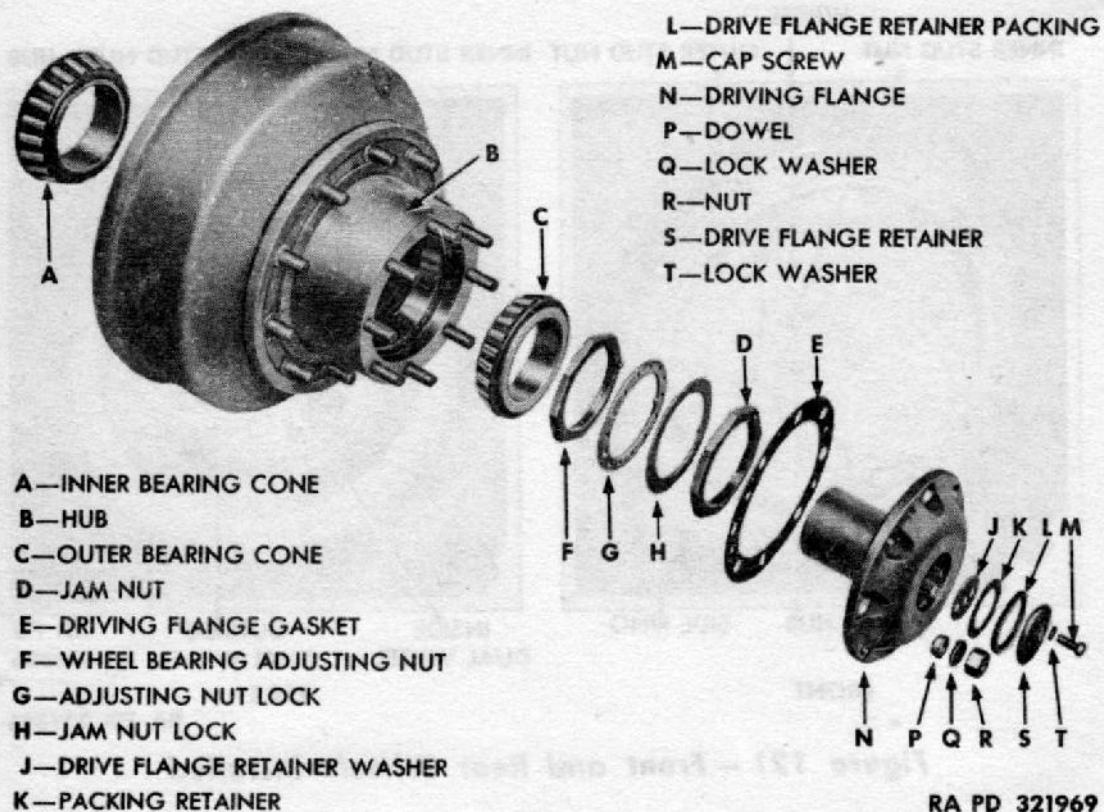

Figure 122 — Front Hub and Bearings Disassembled
(1) DESCRIPTION (figs. 122 and 123). The hubs and wheel bearings are attached at each end of the front and rear axle shafts. The bearings, cups, and cones are snug fit to the axle shaft. The hub assembly is installed on the bearings, and secured by a bearing nut.
b. Adjustment (figs. 122 and 123). Block wheels to prevent vehicle from moving. Use suitable lifting device to raise wheel from floor. Remove the eight stud nuts, eight lock washers, and four dowels which secure axle shaft driving flange to hub assembly. Remove flange and gasket. (For rear axle, remove axle and remove axle shaft as described in paragraph 167 c (2).) Remove wheel bearing jam nut and nut lock (called jam nut washer on rear axle). Rotate wheel alternately in both directions while tightening wheel bearing adjusting nut until wheel binds. Back nut off about one-quarter turn to permit free rotation of wheel without excessive play. Lift hub with a bar, to test for excessive play. Tighten nut enough to eliminate play but not enough to cause binding. Install nut lock (jam nut washer) and jam nut. Recheck wheel adjustment. Install driving flange (or axle shaft)
c. Removal (figs. 122 and 123).
(1) **FRONT WHEEL DRUM AND HUB ASSEMBLIES (fig. 122).** Remove wheel (par. 166 b). Remove front axle driving flange and gasket, jam nut, and jam nut lock. Remove adjusting nut lock and wheel bearing adjusting nut. Pry wheel outer bearing cone alternately on each side and remove. Pull out hub and brake drum assembly. Pry off wheel inner bearing cone. Remove felt oil seal and the two retaining washers. Use a clean cloth to wipe lubricant from all parts.
d. Remove Brake Drum From Hub (figs. 122 and 123). Remove the 10 stud nuts from inner ends of wheel attaching studs, and lift brake drum from hub.
e. Installation of Brake Drum (figs. 122 and 123). Position brake drum on hub, and install the 10 stud nuts which attach drum to hub. Peen ends of studs to hold nuts in place.
f. Installation (figs. 122 and 123).
(1) **REAR WHEEL DRUM AND HUB ASSEMBLIES (fig. 122).** Install new felt oil seal and two retainer washers. Soak felt thoroughly with engine lubricant. Use new lubricant. Pack bearings with lubricant (par. 21 c (13)). Fit wheel inner bearing cone to shaft, taper out. Install brake drum and hub assembly. Fit wheel outer bearing cone to shaft, with taper in. Screw wheel bearing adjusting nut on housing sleeve. Install wheel bearing jam nut washer and wheel bearing jam nut. Adjust bearings (subpar. b above). Screw out puller screws to original position. Position shaft in axle. Install seven nuts, four lock washers, three toothed washers, and three dowels which secure it to hub assembly. Wire rear axle puller screws. Install wheel (par. 166 c).